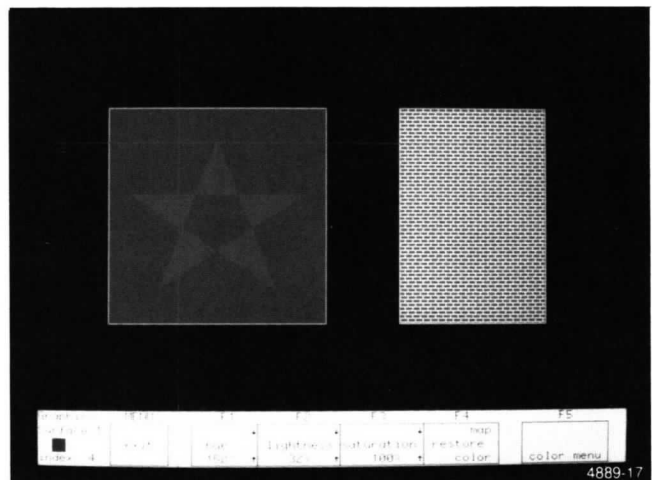

Figure 3-12. Display With Modified Color.
3. You have redefined color 4 in the graphics area to brown, with HLS values of 150, 30, 100 (Figure 3-12). You can now do any of the following: